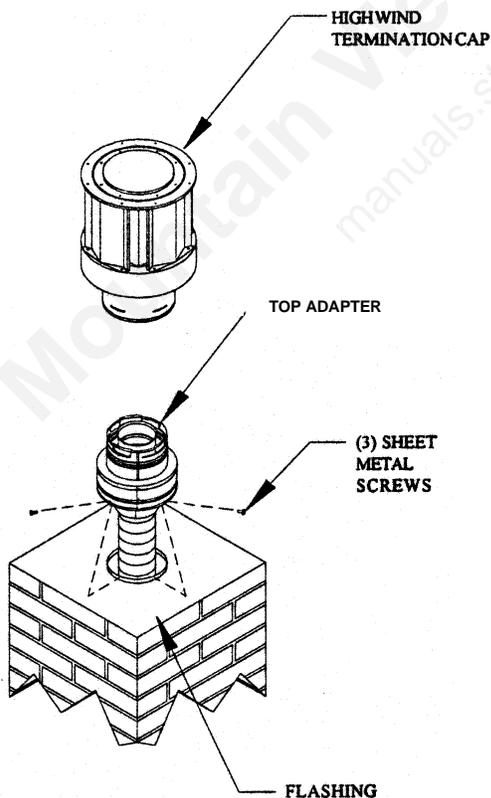

FIG. 25
Step 8. Secure the top adapter to the flashing. Use three sheet metal screws through the side of the top adapter into the flange on the flashing (Figure 25). Twist lock the high wind termination cap (SDV #991) on to the top adapter.